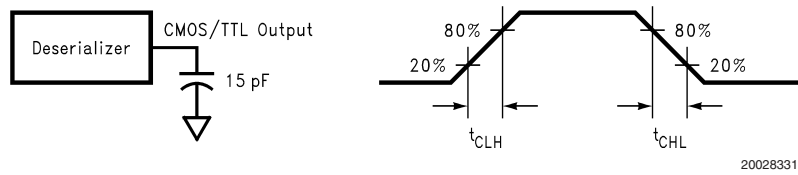

FIGURE 3. Deserializer CMOS/LVTTL Output Load and Transition Times
**Note 6:**  $t_{\text{CLH}}$  and  $t_{\text{CHL}}$  are Guaranteed by Statistical Analysis (GBSA). Please see Figure 3 for a graphical representation.